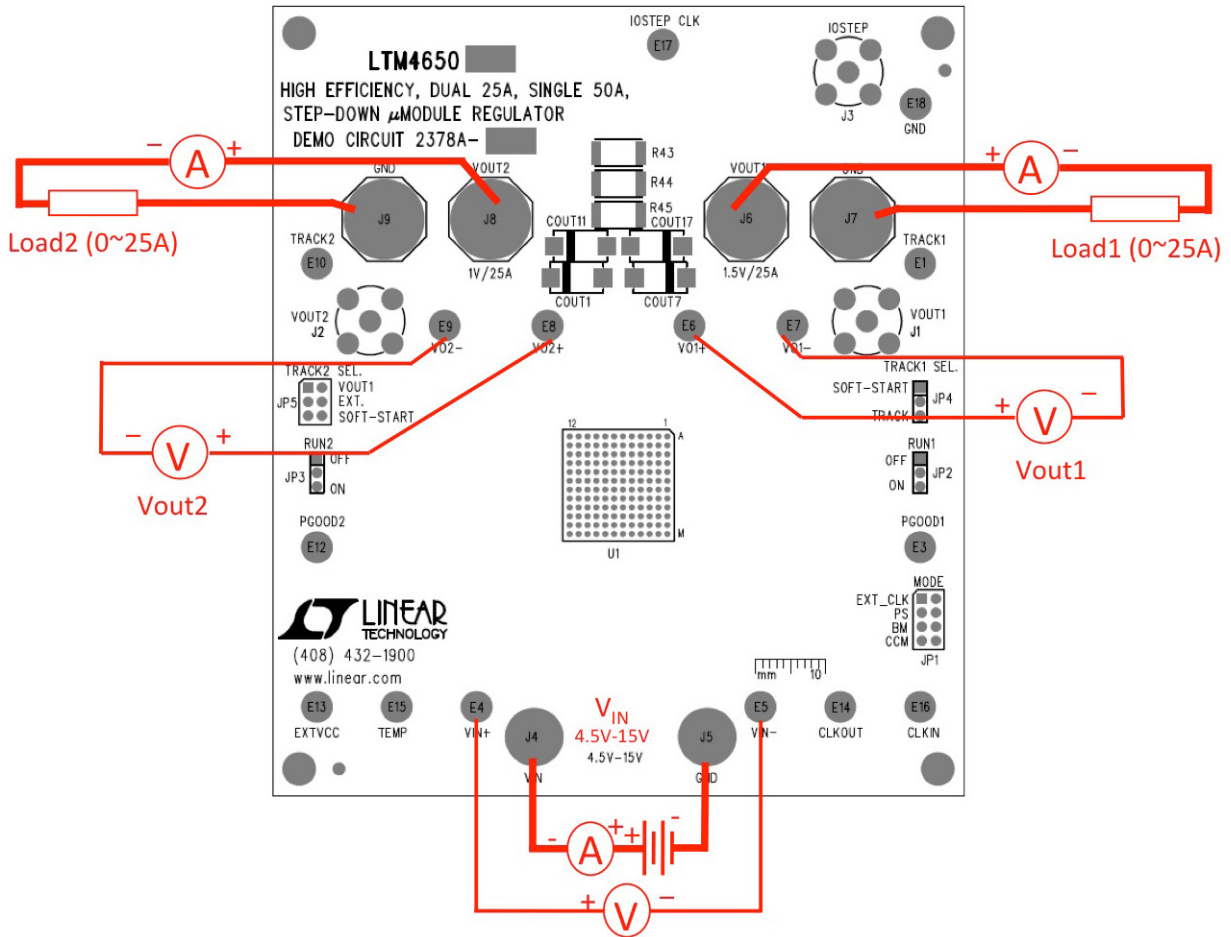

Figure 2. Test Setup of DC2378A-A
Demonstration circuit DC2378A-A is easy to set up to evaluate the performance of the LTM4650EY. Please refer to Figure 2 for proper measurement setup and follow the procedure below:
- With power off, connect the input power supply, load and meters as shown in Figure 2. Preset the load to 0A and V_{IN} supply to 12V.